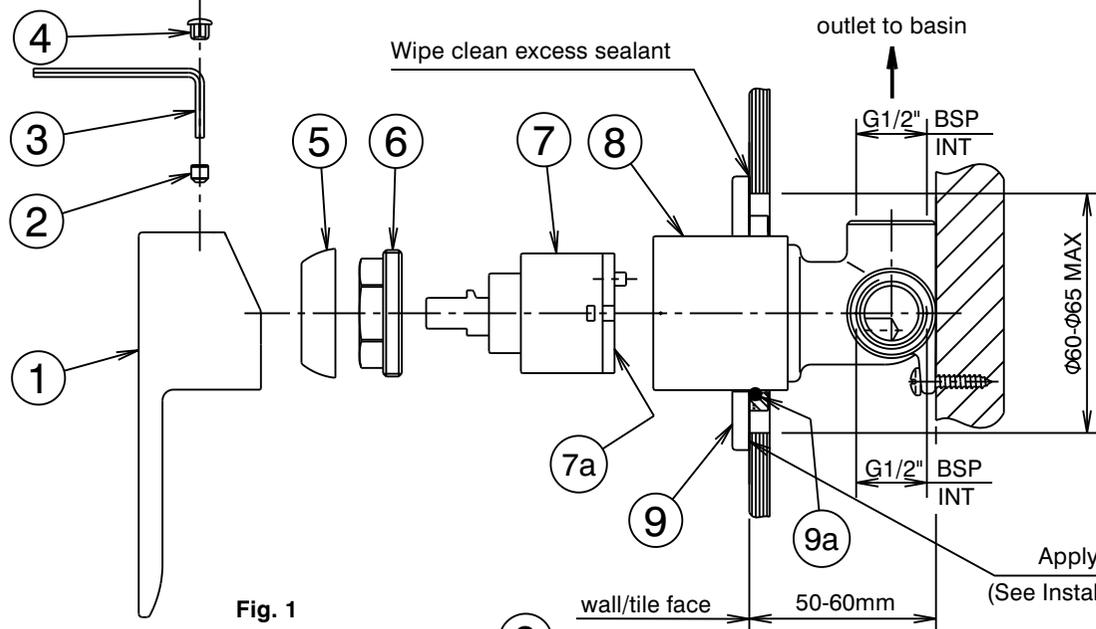
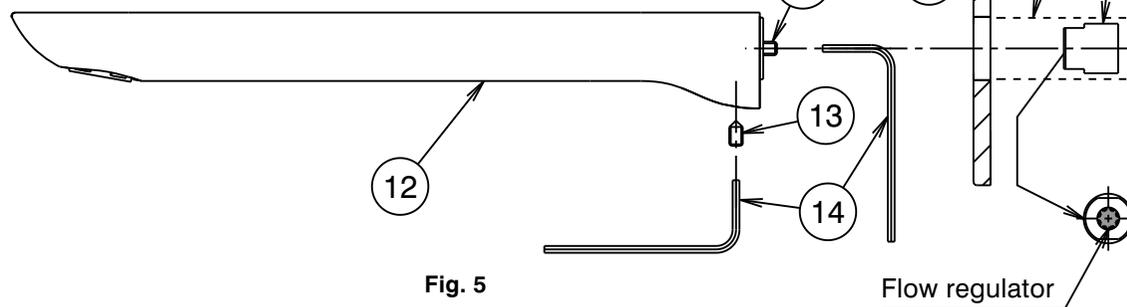

Fig. 1
Fig. 5
- * Adaptor (17) is fitted with a flow regulator. This low flow rate may not be suitable for connection to some Instantaneous Gas Water Heaters, some Tempering Valves, some Solar Water Heaters & some Thermostatic Mixing Valves. Check with the manufacturers of these products. For applications where flow regulation is not suitable (e.g. bath), the flow regulator should be removed. To convert the basin outlet to a bath outlet, the flow regulator can be accessed by referring to the flow regulator servicing instructions (Fig.5)
- 3) When completing the installation, after sheeting/tiling, remove protection sleeve from mixer body (9) and discard. Check that the end of the G1/2B outlet thread of the wall elbow (11+) is 8±2mm from the finished wall/tile face. Cut to length if required. Apply thread tape to the thread of wall elbow (11+).
Important: Care must be taken that thread tape cannot become dislodged and block the flow regulating device, causing a reduction in water flow. Screw adaptor (17) onto wall elbow (11+) taking care that face 'X' of adaptor (17) is flush to 1mm below the finished wall/tile face. (Fig. 5). Apply suitable lubricant to 'O'Rings on adaptor (17). If the flow regulator is not required, it should be removed now (Ref. 'Servicing the Flow Regulator').
- 4) Apply a suitable clear sealant to the back edge of the cover plate (9), leaving an unsealed section at the bottom for drainage. After making sure seal (9a) is in place as shown in Fig. 1 carefully fit the cover plate (9) onto the mixer body (8). Push the cover plate (9) firmly against the wall/tile face and engage the smaller hole in the plate with the spigot on adaptor (17). Wipe/clean excess sealant from the chrome surfaces & the wall/tile face. (See Fig. 1 & Fig.5).
Replacing Cartridge (Fig. 1)
Servicing the Flow Regulator (Fig.5)